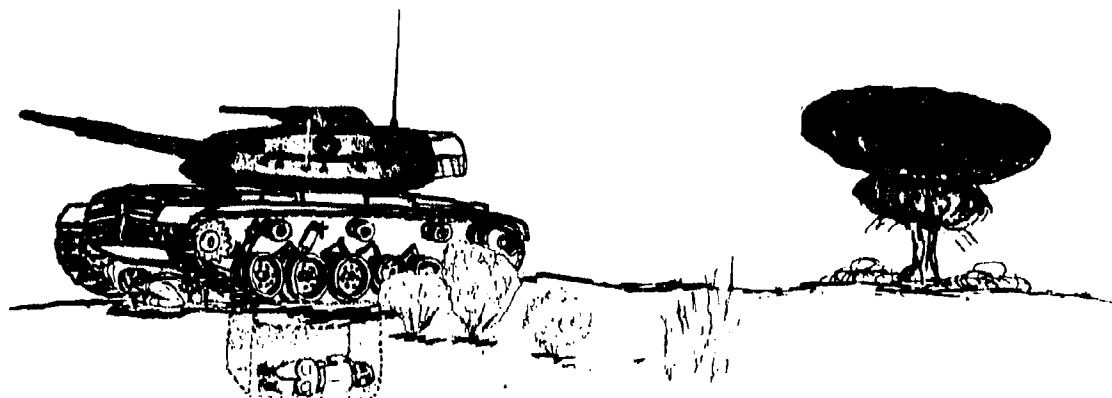

FIGURE 7. USING TRACKED VEHICLES AS EXPEDIENT OVERHEAD COVER.
--"Vehicles make good expedient overhead cover." If you don't have a concrete slab or a chain saw handy to help construct sturdy overhead cover, a simple and fast alternative is to drive a vehicle over the top of your foxhole (see figure 7). A heavy armored vehicle is better than a wheeled vehicle (of course being inside an armored vehicle is even better). As with any type of overhead cover, initial radiation can still enter your foxhole through the earth sides or by line-of-sight between the openings in the sides of vehicles (between treads, road wheels, and tires) and the burst. Sandbags can be used to cover these openings. Remember, the vehicle is not a good neutron shield, and both neutron and gamma radiation protection can be enhanced considerably by placing wet sandbags over the top of the vehicle. Also remember that the blast wave may violently displace the vehicle and tend to collapse a foxhole. Orienting the armored vehicle head- or rear-on to the expected direction of the burst will help reduce this problem.